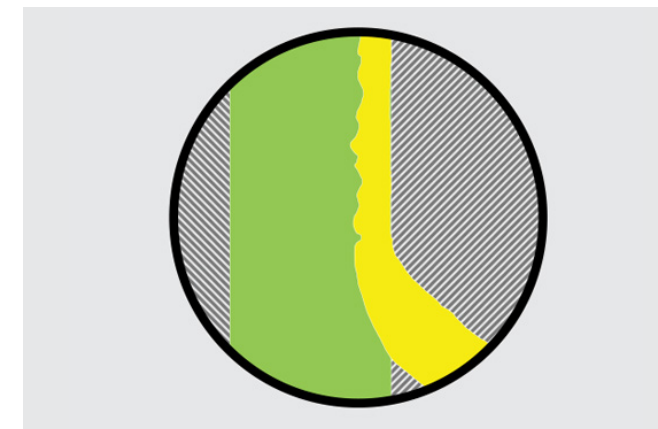

Figure 2: Wave like flow instabilities caused by velocity mismatch at the layer merge point
The die head used for this type of multi-layer extrusion is commonly referred to as an ABC design, because the inner layer (A), middle layer (B) and outer layer (C) are made of different polymers. The die flow channels (deflectors) are designed based on the rheology of the individual polymer layers and analyzed by using computational fluid dynamics (CFD) flow analysis software to ensure uniform flow velocities of each polymer melt stream at the die exit. When a higher velocity polymer layer merges with a lower velocity layer, the high velocity layer decelerates, causing wave like flow instabilities at the interface as shown on Figure 2. These instabilities result in intermixing of the layers, decreased mechanical